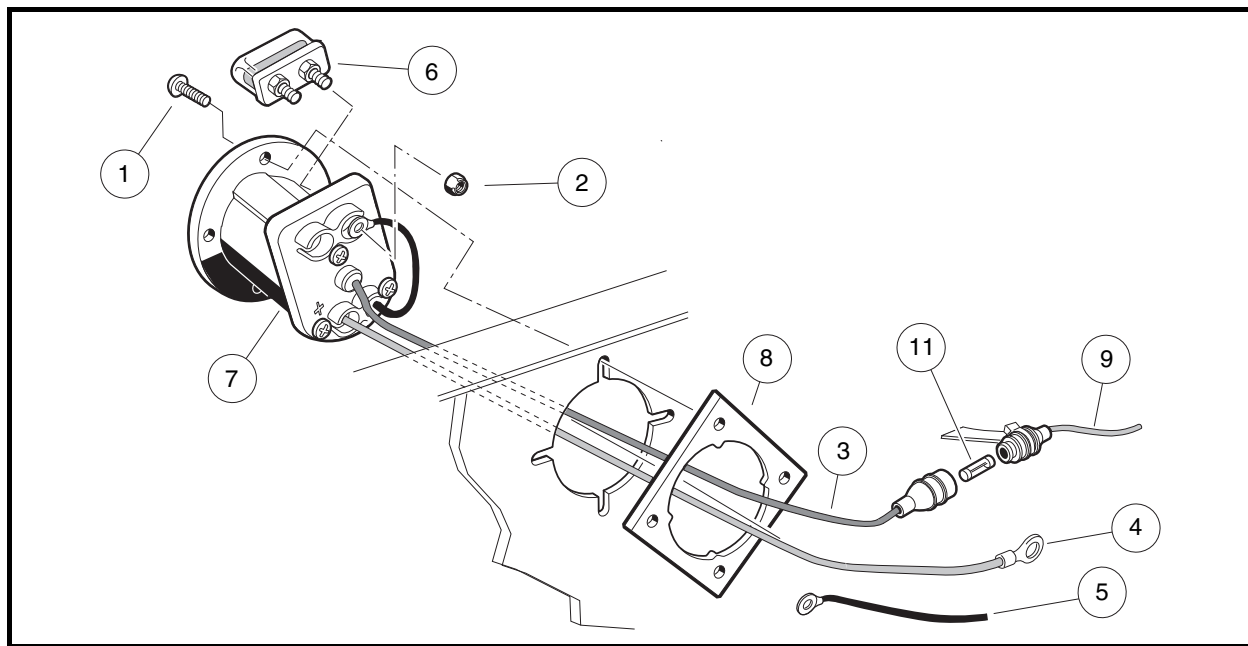

Figure 13-12 Charger Receptacle
2. Remove the 10-gauge red wire (4) from the positive post of battery no. 1 (**Figure 13-12, Page 13-14**).
3. Remove black 10-gauge OBC wire (5) from charger receptacle.
4. Disconnect the gray wire (9) from the receptacle at the yellow fuse holder.
5. Remove the four screws (1) that secure the charger receptacle bezel (7) to the receptacle backing plate (8) and to the vehicle body.
1. Insert the 10-gauge red wire (4) and the 18-gauge gray wire (3) through the hole in the vehicle body and the receptacle backing plate (**Figure 13-12, Page 13-14**).
3. Install the four screws (1) that secure the receptacle to the vehicle body and receptacle backing plate (8). Tighten screws to 16 in-lb (1.8 N·m).
4. Connect 18-gauge gray wire (9) to yellow fuse holder. Make sure fuse (11) is installed in fuse holder.
5. Connect the 10-gauge black wire (5) to the receptacle fuse link (6) on the charger receptacle (**Figure 13-12, Page 13-14**). Tighten to 23 in-lb (2.6 N·m).
6. Connect the 10-gauge red wire (4) to the positive post of battery no. 1.
The fuse link on the 48-volt Club Car electric vehicle should not blow under normal operating conditions; however, if the fuse link has blown, the vehicle will not charge and the fuse must be replaced. The fuse link (6) is mounted on top of the charger receptacle in the battery compartment (**Figure 13-12, Page 13-14**).
1. Remove the fuse link (6) from the charger receptacle (7) by removing the two nuts and washers used to secure the 10-gauge black wire (5) from the computer and the 10-gauge black wire to the receptacle (**Figure 13-12, Page 13-14**).
2. Remove the fuse link (6) from the charger receptacle.
3. Install nuts (2) on fuse link mounting posts and tighten to 23 in-lb (2.6 N·m) (**Figure 13-12, Page 13-14**).